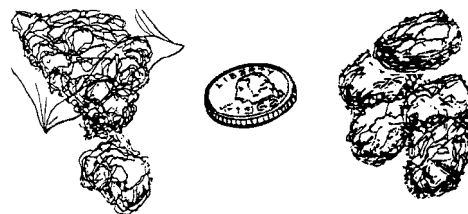

Figure 5 - Glowing Ember Separation
3. Separate the glowing embers from the larger bag into pieces about the size of a quarter, as shown in **Figure 5**. Mix the glowing embers with the bag of platinum embers also provided with the fireplace. Keep the pieces fluffed, not matted. Distribute these pieces over the burner as shown in **Figure 6**. Do not use more glowing embers than necessary. When properly positioned, the glowing embers will cover approximately 75% of the burner for natural gas applications. For propane gas, do not place any glowing embers on the main ports.